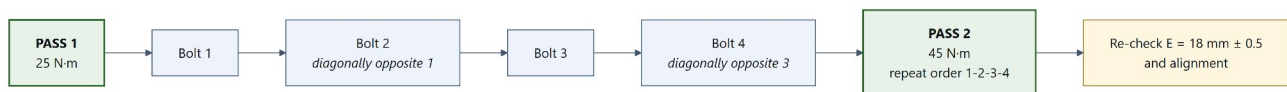

Figure 2 — Crosswise tightening order for the 4 x ISO4017-M10x40-8.8 bolts. Pass 1: 25 N·m. Pass 2: 45 N·m.
16. Fit the **4 x ISO4017-M10x40-8.8** bolts (balloon 3) with the threads wiped clean and **lightly oiled**. Tighten **crosswise in two passes: first pass 25 N·m, second pass 45 N·m** (drawing Note 1, see Figure 2).